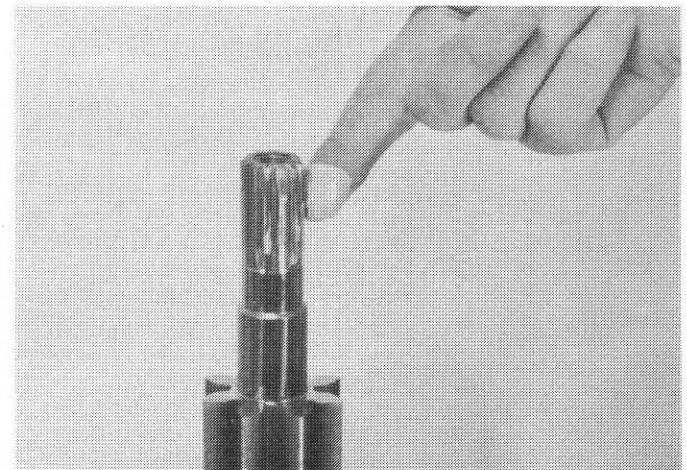

FIG. 23
32. Check the extension end of the drive gear shaft (14) for burrs and sharp edges. If present, remove them with medium grit sandpaper. After sandpaper has been used, clean the part thoroughly.
33. If the extension end of the drive gear shaft is splined, coat the splines with clean heavy grease. This will help protect the seal as the shaft slides through it. If the shaft has a keyway, cover the keyway with transparent tape. (Fig. 23)